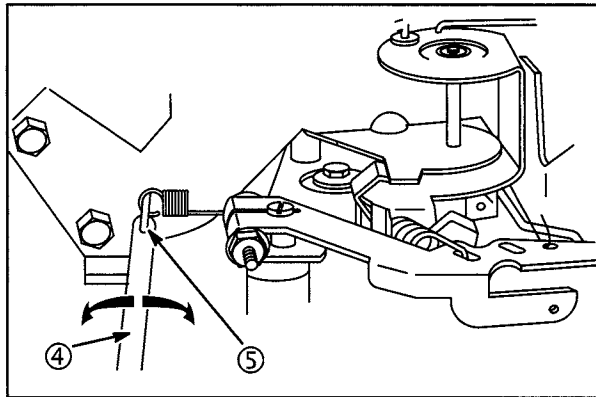

Fig. 12
5. Then turn idle mixture screw **COUNTER-CLOCKWISE** (3) until engine speed just starts to slow (RICH mixture).
6. Turn screw to mid point (2) between RICH and LEAN.
9. If necessary bend governed idle tang (5) with Tang Bender #19352 (4), Fig. 12, to obtain RPM shown: